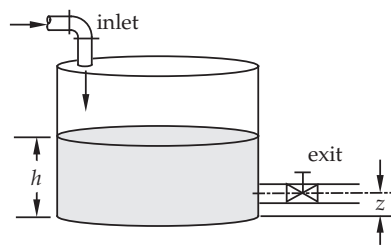

FIGURE P2.48.
48. A 42 mm ID pipe is used to drain a tank, as shown in Figure P2.48. Simultaneously, a 52 mm ID inlet line fills the tank. The velocity in the inlet line is 1.5 m/s. Determine the equilibrium height  $h$  of the liquid in the tank if it is octane. How does the height change if the liquid is ethyl alcohol? Assume in both cases that frictional effects are negligible, and that  $z$  is 40 mm.